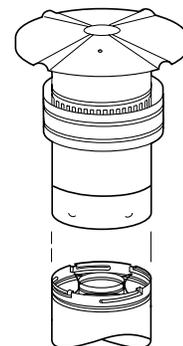

Figure 26
K. Install the vertical termination - The final step involves installation of the SV4.5VTR Vertical Termination. Extend the vent sections to the height as shown in the "Vertical vent termination section" on **page 5**. The SV4.5VTR Vertical Termination (*Figure 26*) can be installed in the exact same fashion as any other **Secure Vent** section. Align the termination over the end of the previously installed section, adjusting the radial alignment until the four locking dimples of the termination are aligned with the inlets of the four incline channels of the last vent section. Push the termination down until it fully engages, then twist the termination clockwise running the dimples down and along the incline channels until they are seated at the end of the channels.